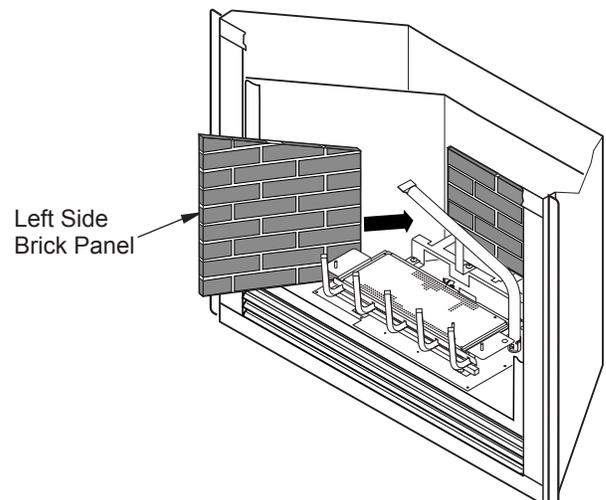

Figure 39 - Installing Brick Panels
6. Install left side brick panel by sliding it between burner assembly and side of fireplace (see Figure 39).